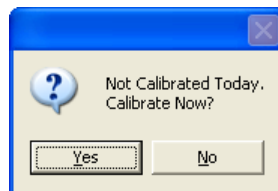
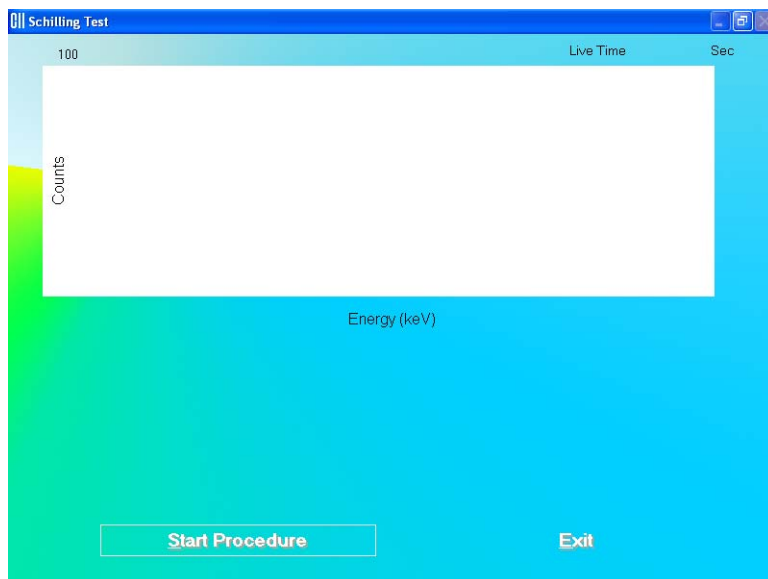

Figure 10-11
Figure 10-12
2. To begin the measurements, click the **Count Selected Patient** button or press *Alt+C*. The screen appears as shown in Figure 10-12.
**Note:** If calibration has not been performed, you will be prompted with the screen as shown in Figure 10-11. After the calibration is complete, the program will return to the Schilling Test measurement screen shown in Figure 10-12.
To begin counting, verify that there are no radioactive sources nearby and click the **OK** button. To abort the measurement, click the **Cancel** button and the screen will return to that shown Figure 10-12. To exit to Figure 10-2 Schilling Test Main Screen, click the **Exit** button or press *Alt+E*. To begin the test again, click the **Start Procedure** button or press *Alt+S*.
To abort the procedure, click the  button or press the Y key. Collected data will be discarded and the screen will return to the Schilling Test Measurement Screen (Figure 10-12). To resume the test, click the  button or press the N key.